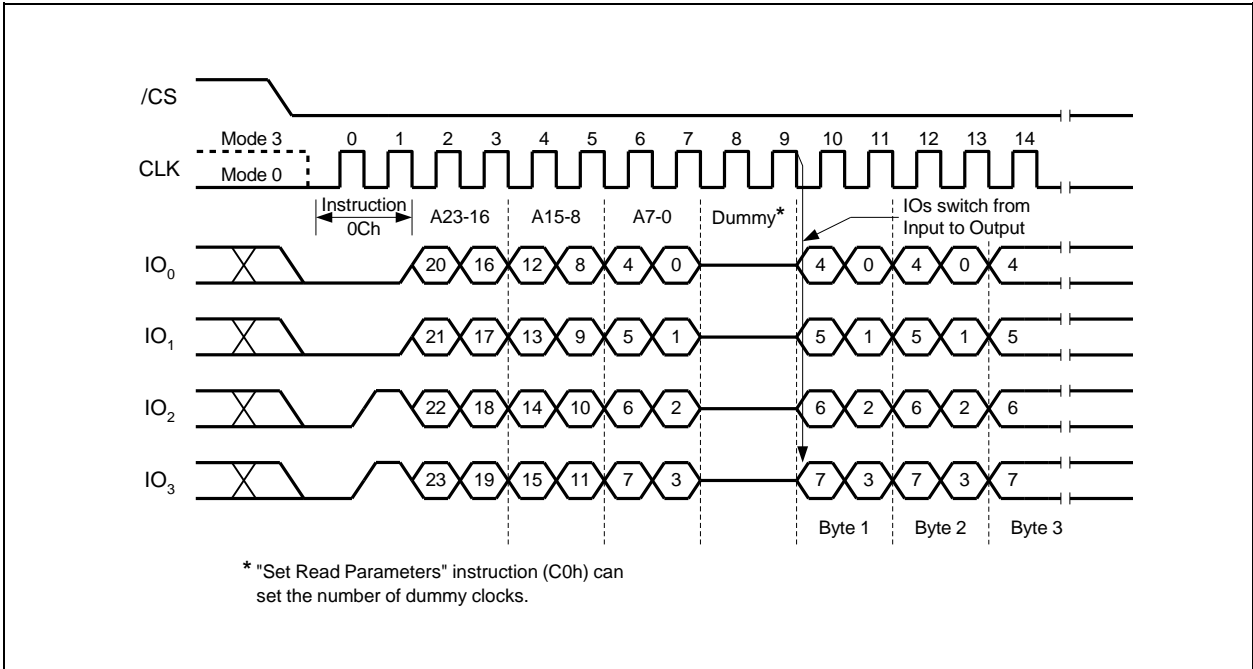

Figure 54. Burst Read with Wrap Instruction (QPI Mode only)
To read out the lock bit value of a specific block or sector as illustrated in Figure 4d, a Read Block/Sector Lock command must be issued by driving /CS low, shifting the instruction code “3Dh” into the Data Input (DI) pin on the rising edge of CLK, followed by a 24/32-bit address. The Block/Sector Lock bit value will be shifted out on the DO pin at the falling edge of CLK with most significant bit (MSB) first as shown in Figure 54. If the least significant bit (LSB) is 1, the corresponding block/sector is locked; if LSB=0, the corresponding block/sector is unlocked, Erase/Program operation can be performed.